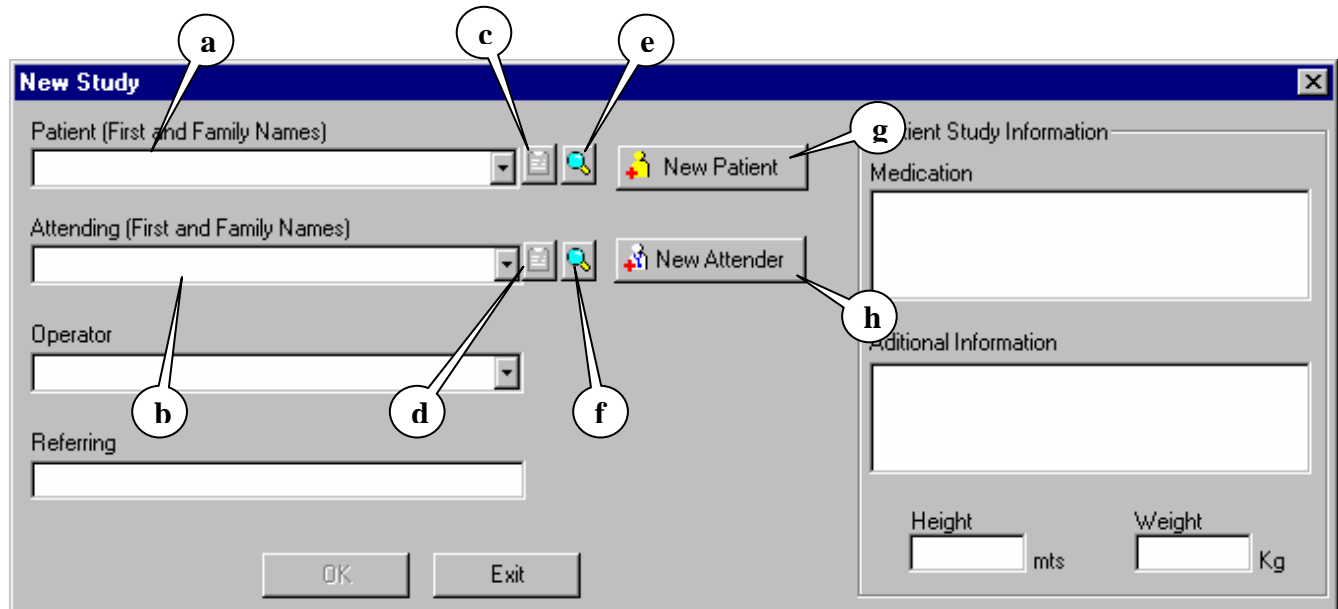
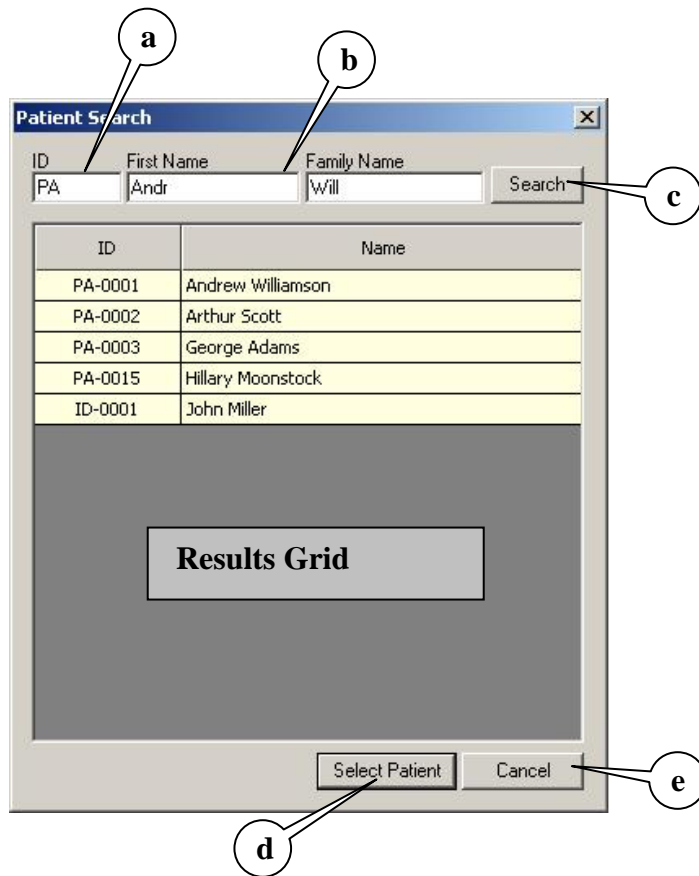
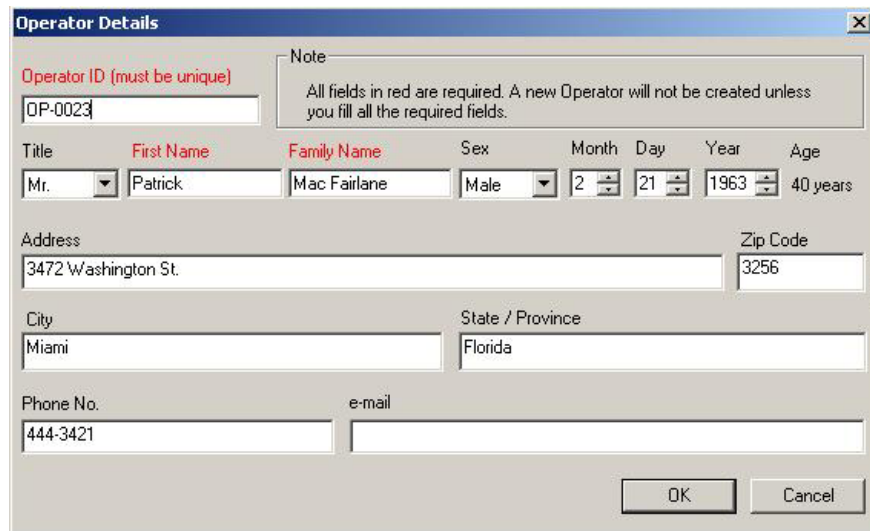

Figure 01
Figure 02
Figure 03
- a) Click the advanced search button (see **Figure 01-e and f**). The Advanced Search dialog will appear (see **Figure 02**).
- b) Type the ID and patient name in the corresponding fields (**Figure 02-a and b**). For a broader search leave one of the fields empty.
- c) Click the Search button (**Figure 02-c**).
- f) To use the selected Patient or Attendant in the study, click the Select Patient button. (**Figure 02-d**).
- g) To cancel the search simply press the Cancel button (**Figure 02-e**).
Once selected the Patient or the attendant the user can click the View Details button (see **Figure 01-c and d**) . This button will open a dialog with the Patient or Attendant information stored in the database (see **Figure 03**).
If the Patient or the Attendant is not in the database, the user can add them by clicking on the New Patient or New Attendant Button (**Figure 01-g and h**).
- Click on the New Patient button. The New Patient dialog will be displayed (see **Figure 04**). If the button is disabled, the selection must be deleted in the Patient field (**Figure 01-a**).
- Click on the New Attendant button. The New Attendant dialog will be displayed (see **Figure 04**). If the button is disabled, the selection must be deleted in the Attendant field (**Figure 01-b**).